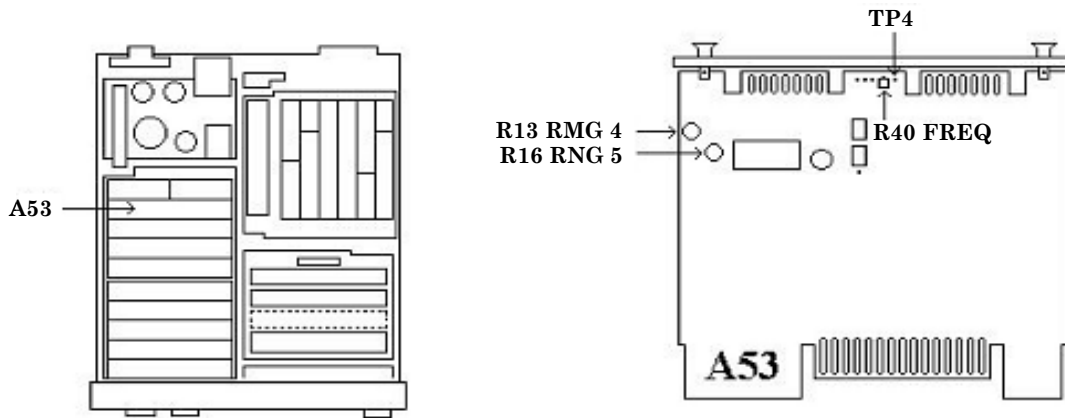

Figure 18. A53 board.
- (1) Reduce all outputs to minimum and disconnect equipment setup.
- (2) Connect range calibrator **POWER METER** connector to TI **SENSOR** input.
- (3) Set range calibrator to calibrate 1 mW range and normal polarity.
- (4) Press TI **RF POWER** key.
- (5) Adjust A53R40 **FREQ** (fig. 18) for a maximum indication on TI display.
- (6) Press TI keys as listed in (a) and (b) below:
- (7) Connect TI **MODULATION OUTPUT/AUDIO INPUT** to A53TP4 (fig. 18).
- (8) TI indication should be between 204 and 236 Hz.
- (9) Disconnect A53TP4 (fig. 18) from TI **MODULATION OUTPUT/AUDIO INPUT**.
- (10) Set range calibrator to standby.
- (11) Press TI keys as listed in (a) and (b) below:
- (12) Set range calibrator to calibrate.
- (13) Press TI keys as listed in (a) through (e) below:
- (20) Press TI keys as listed in (a) and (b) below:
- (21) Set range calibrator to calibrate.
- (22) Press TI keys as listed in (a) through (e) below:
- (23) Adjust A53R13 RMG 4 (fig. 18) for a TI indication of 10.00 mW.
- (24) Press TI keys as listed in (a) and (b) below:
- (25) Set range calibrator to 100 mW range.
- (26) Adjust A53R16 RNG 5 (fig. 18) for a TI indication of 100.0 mW.
- (27) Press TI keys as listed in (a) and (b) below:
- (28) Reduce all outputs to minimum and disconnect equipment setup, reinstall A53 board and repeat performance check.